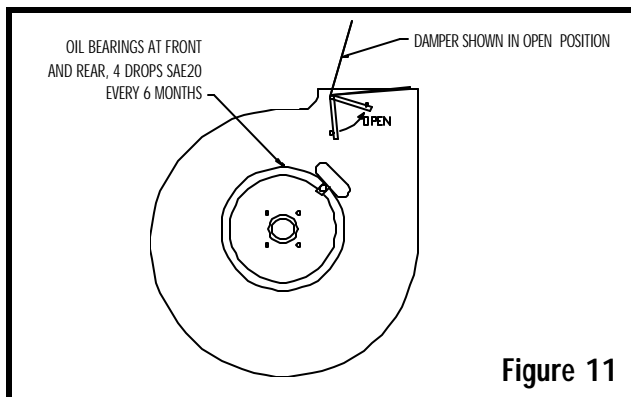

Figure 11
4. Inspect the blower vent damper for proper movement, making sure the damper extends to the full open position after the blower reaches full speed (see Figure 11). If the damper blade does not fully open, remove the vent connector and make sure the blower wheel is clean and debris has not fallen on the damper blade or blower wheel. If the damper binds, replace the blower assembly. **DO NOT ATTEMPT TO REPAIR THE DAMPER!**